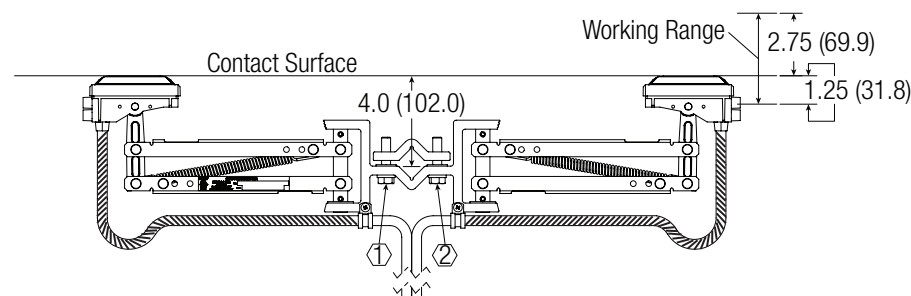

Figure: 17-2
17.1 XA-SL2C-100T-1M Tandem Collector - Figure 17-2